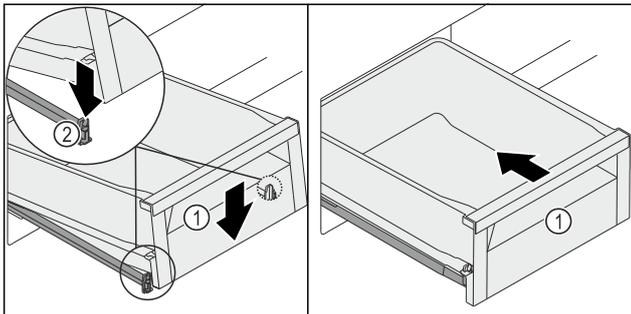

Fig. 129
- ▶ Lower the drawer Fig. 129 (1) at the front so that the drawer slides into the clamp Fig. 129 (2) on the left and right.
- ▶ The drawer Fig. 129 (1) locks in audibly.
- ▶ Push in the drawer Fig. 129 (1).